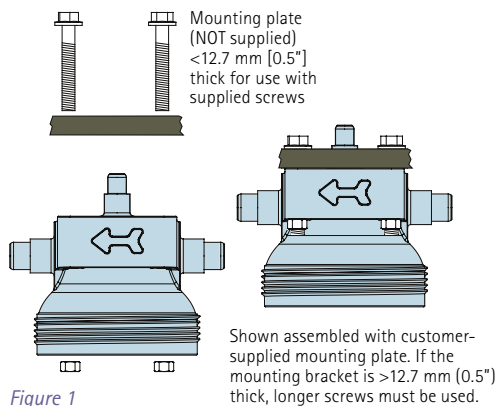

Figure 1
1. Use supplied screws and nuts to secure the housing head to your equipment or facility mounting bracket (Figure 1).